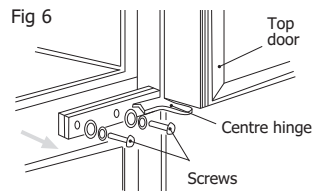

Fig 6
- Open the top door and unscrew the screws to remove the centre hinge, spacers and washers. Lift away the top door (Figure 6).
- Replace the centre hinge with the screws, spacers and washers removed in Figure 6). Swap over any blanking caps to cover the original screw holes. Locate the bottom door in the centre hinge and replace the bottom hinge plate.